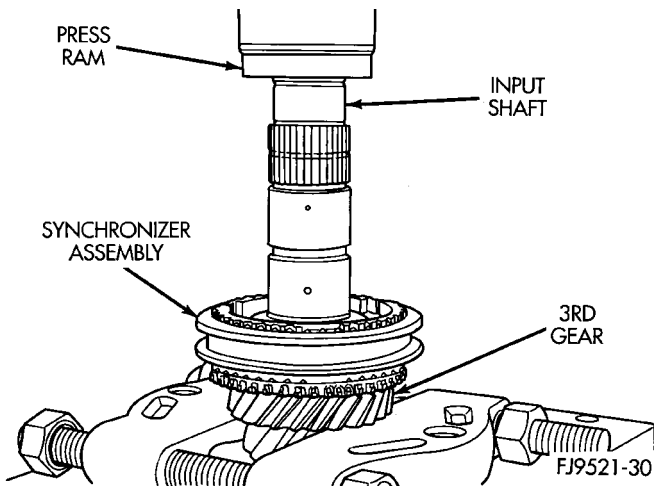

Fig. 88 3rd Gear Removal
(10) Install input shaft in shop press. Using bearing splitter, remove 3-4 synchronizer and 3rd gear (Fig. 88).